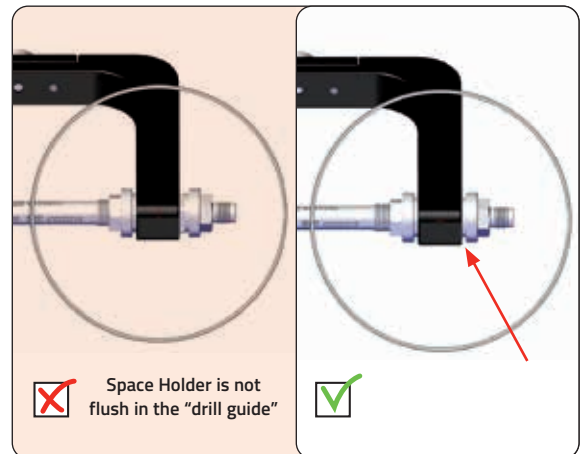

Fig. 52 Space holder wrongly inserted
2. The Space Holder is not completely flush with the Drill Guide Assembly. (Fig. 52)